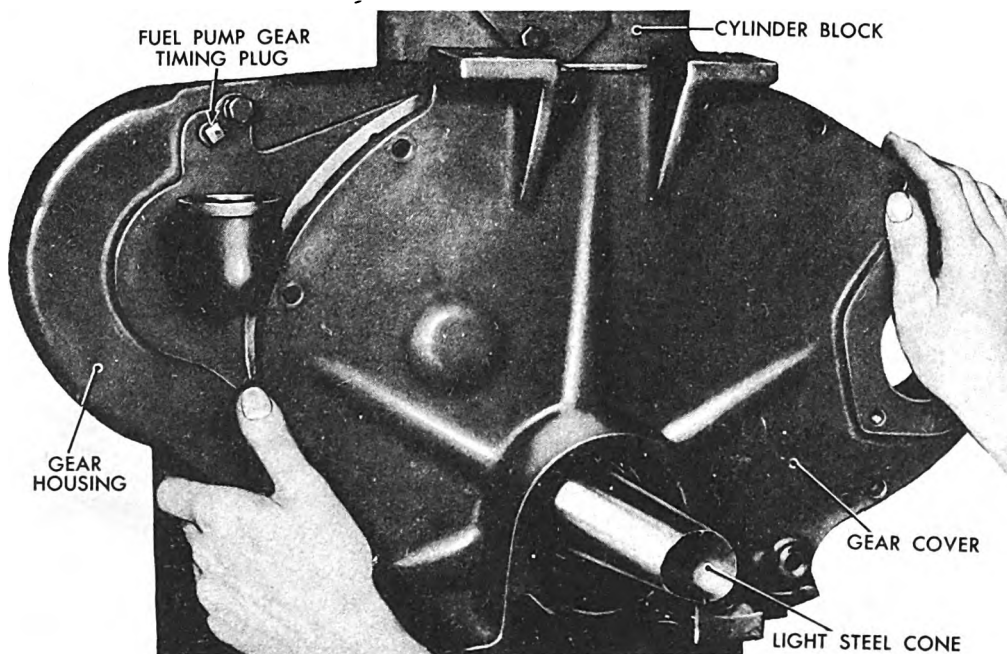

Fig. 175. Installing Gear Housing Cover
**l. Installing Gear Cover.** Shellac the gear cover gasket to the gear housing. A new oil seal should be in place in the gear cover. (See paragraph 55e.) Slip a thin steel cone over the crankshaft to protect the crankshaft oil seal when installing the cover, as shown in Figure 175. This thin steel cone is formed from rolling a thin piece of light steel so that the diameter of the one end is smaller than the end which slips over the fan pulley spacer.